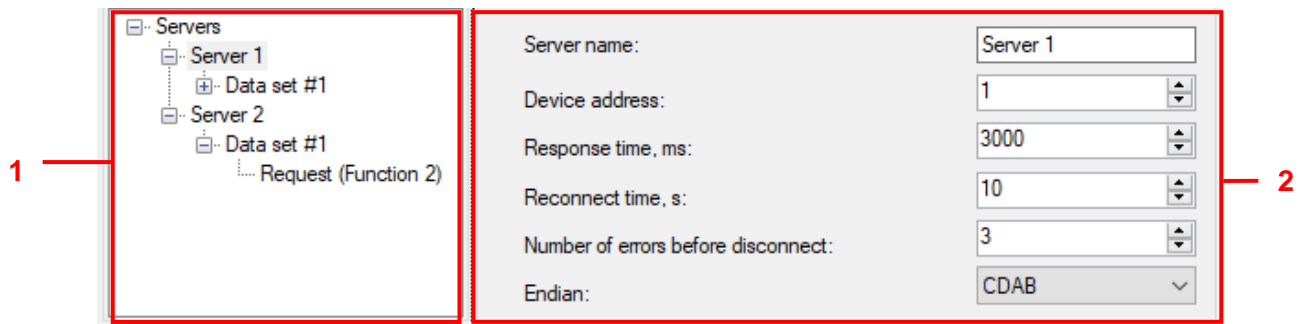

Figure 235 – Modbus client window
To edit settings of Modbus clients, open the **Modbus client** window (see figure 235).
The window is divided into two areas. In figure 235, item 1 the hierarchical structure of requests of Modbus clients is shown, and in figure 235, item 2 – parameters of the selected node in the hierarchy. The hierarchical structure is represented as a tree and consists of four levels: